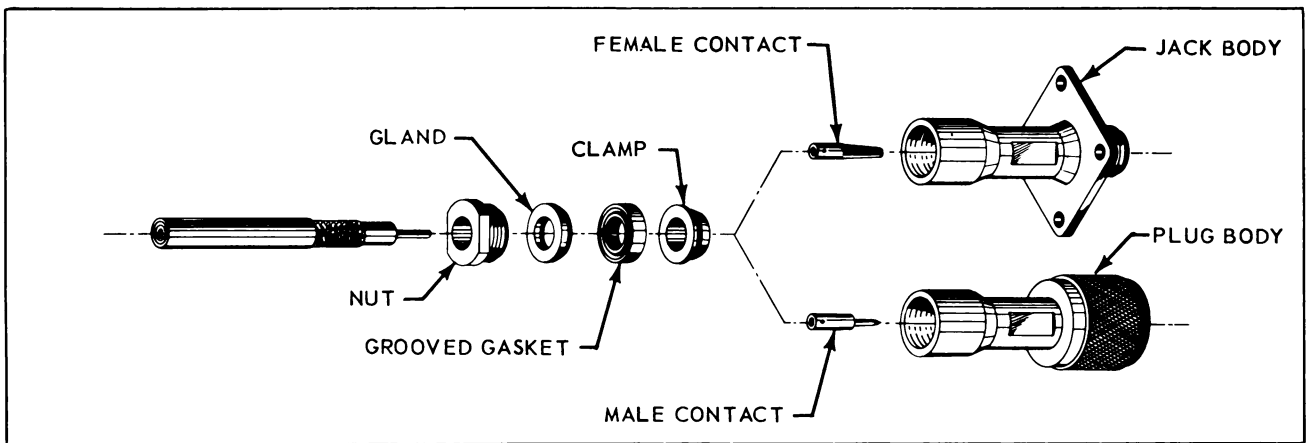

Figure 4-23. Air Force Version HN Connectors - Exploded View
b. Air Force Version (See Figure 4-23) - consists of a plug or jack body assembled to coaxial cable with nut, gland, grooved gasket and clamp. Plug UG-59B/U and Jack UG-60B/U are typical of this version. These differ from the standard version in the shape of the gasket. The gland has a sharp face which cuts into the grooved gasket and thus makes a tight seal.
- Disassemble nut, gland, grooved gasket and clamp from plug or jack body. See Figure 4-23.